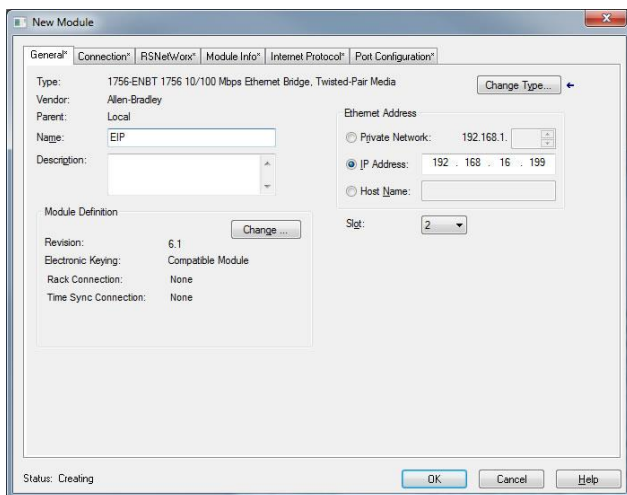

Figure 20: Identifying the New Module
- 6) The "New Module" window will open. Refer to Figure 20.